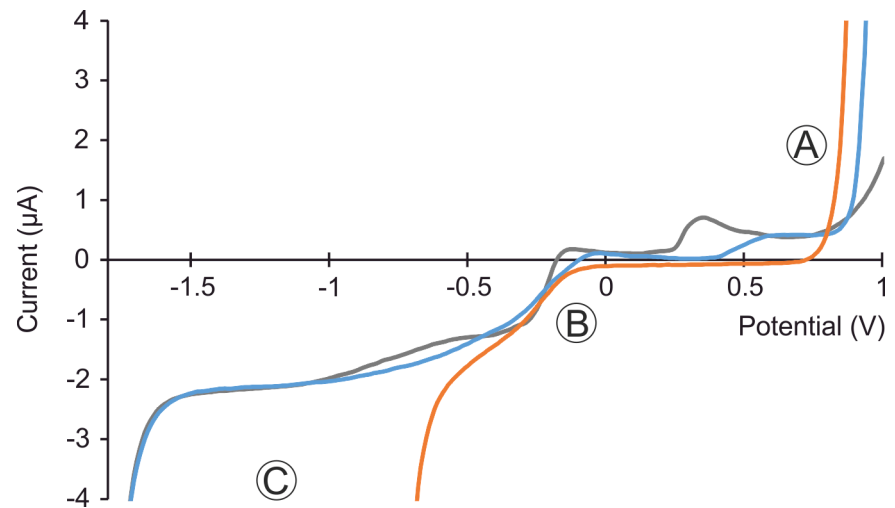

Figure 19 Influence of pH on the background current of the scTRACE Gold electrode.
The major influence of the pH can be observed in section (C) of the curve shown in Figure 19. Section (B) is discussed in subchapter *Influence of oxygen* and section (A) to a great extent in the subchapter *Influence of chloride*. What affects the background current in section (A) in slightly acid and alkaline solution in addition to what is already described for the chloride, is the formation of  $\text{Au}(\text{OH})_3$ .